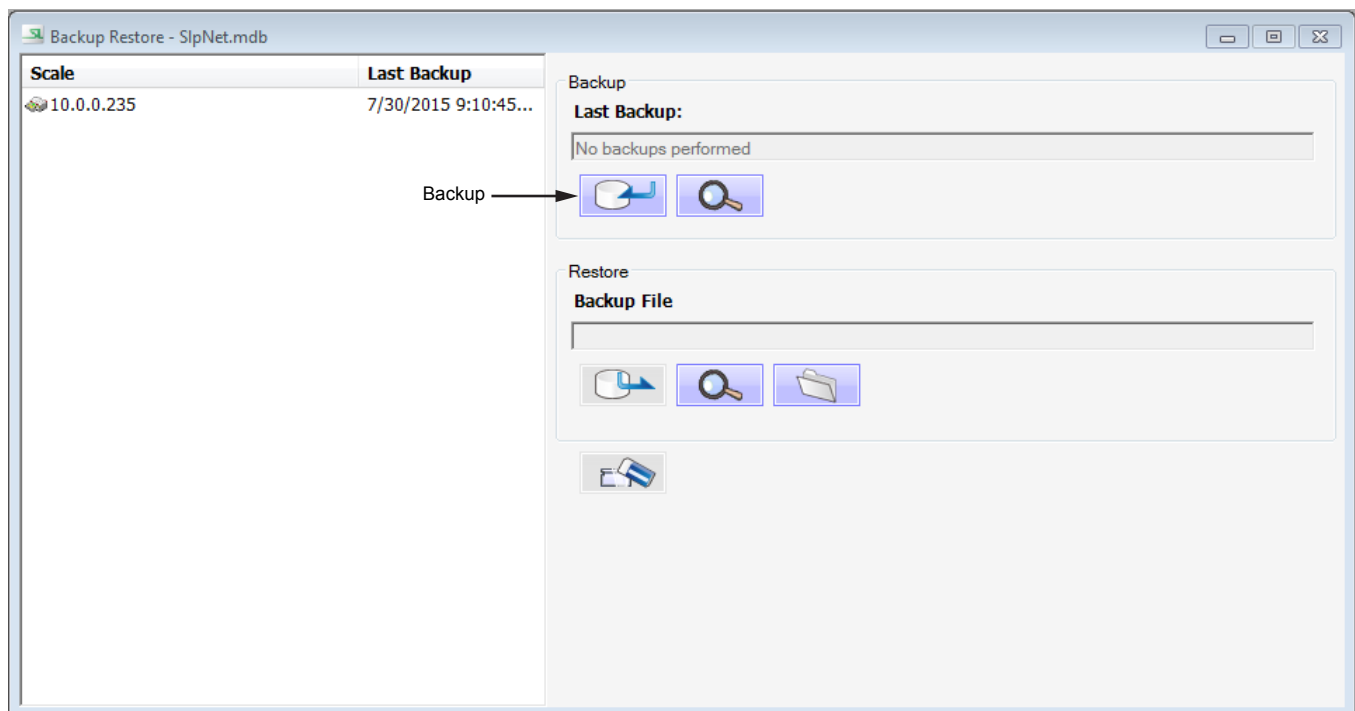

Figure 48-1
2. Select the scale from the left side of the screen. Details of the most recent backup for that scale will display on the right side of the screen. See Figure 48-1.